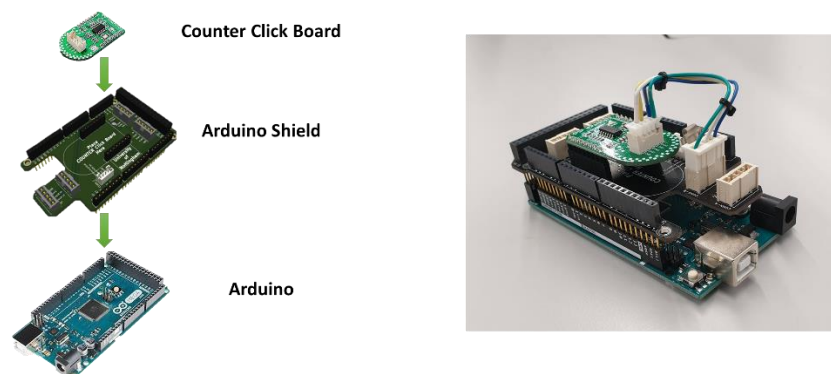

Figure 4 Three boards (Arduino + Arduino Shield + Counter Click Board) together
- CONN-B** (on Arduino Shield) with “**Counter Click Board**” connector (see Figure 4 a few pages above)